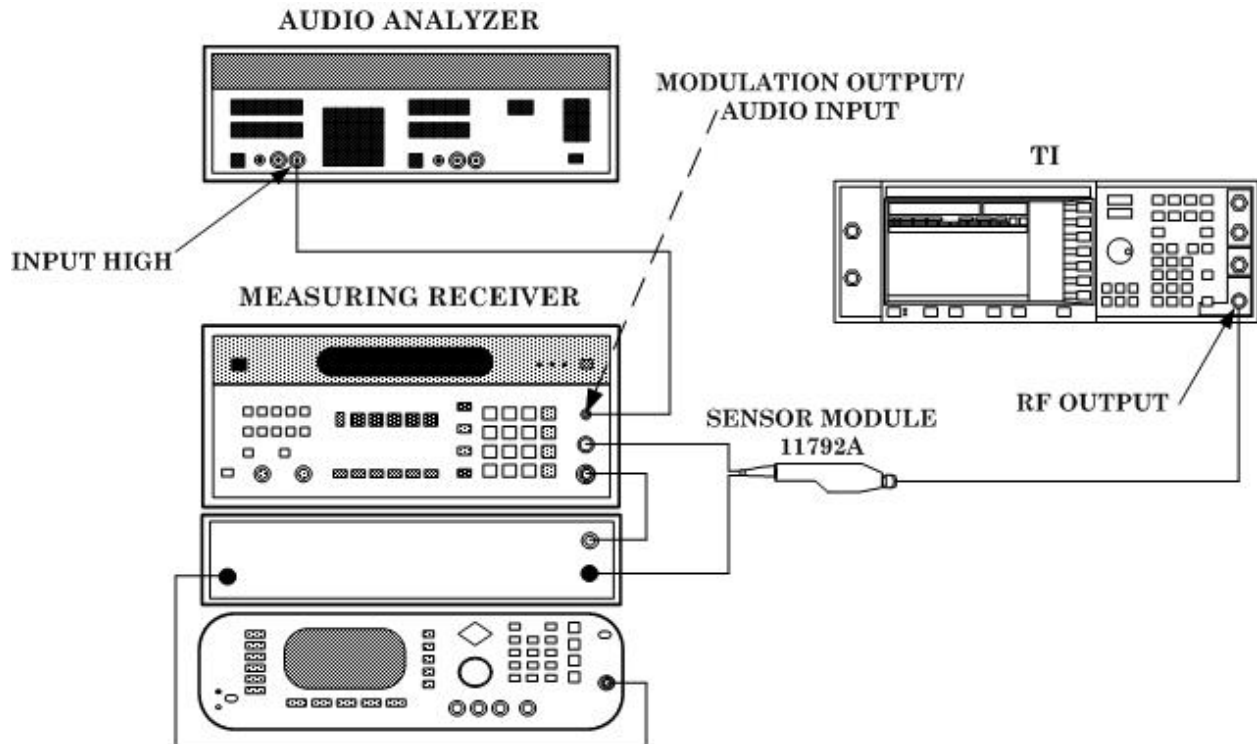

Figure 4. AM equipment setup.
(1) Connect equipment as shown in figure 4.